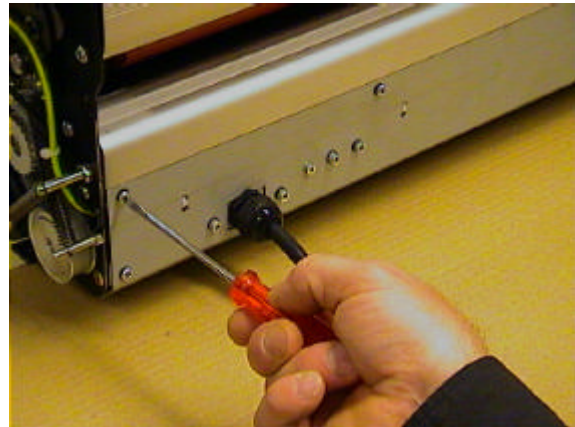

fig. 22
2. Remove the seven crosshead self-tapping screws from the rear panel (see figure 22).